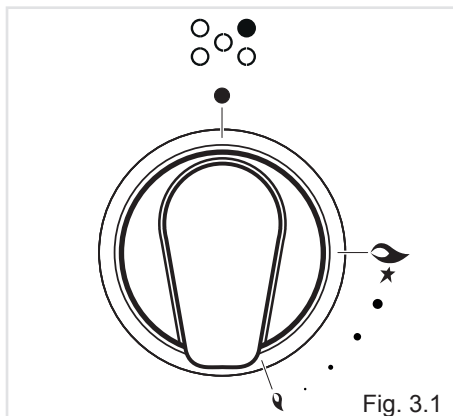
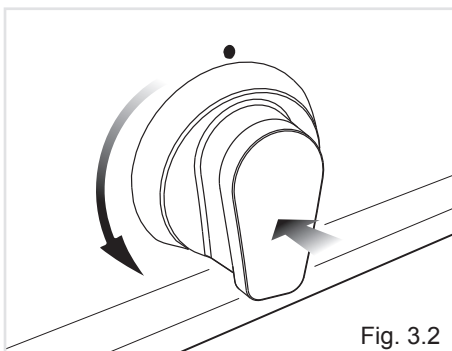

Fig. 3.1
Fig. 3.2
1. Press in the corresponding knob and turn counter-clockwise (fig. 3.2) to the full flame position marked by the  symbol (fig. 3.1) and hold the knob in until the flame has been lit.